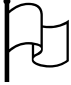

Figure 10. Heater Panel and Inlet Cone.
- b. Lift the floor plate out of the oven to expose heater panel/inlet cone (Figure 10).
- c. Lift the floor plate out of the oven to expose heater panel/inlet cone (Figure 10).